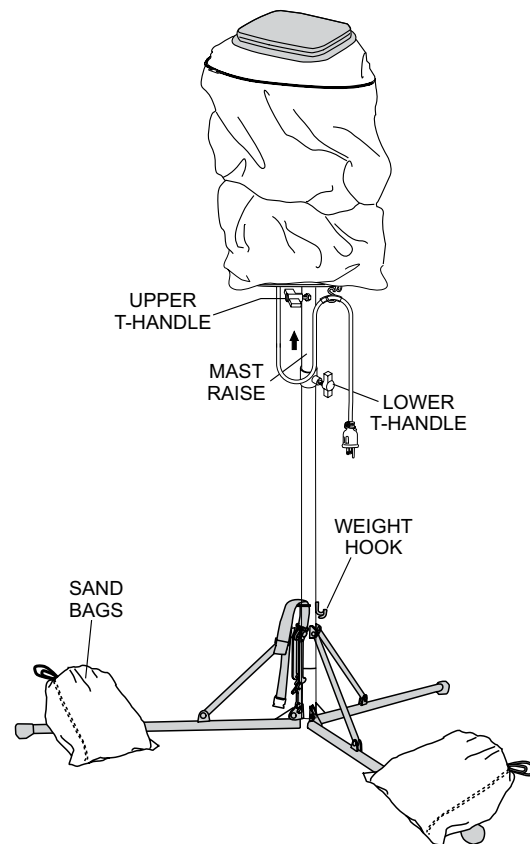

Figure 12. Sand Bags
Before raising the mast, make sure the upper T-handle bolt lock (Figure 12) is securely tightened. This will prevent the balloon/lamp assembly from falling off. In addition make sure that the lamp power cable is connected to the mating end of the 15 ft (4.5 meters) power source cable.
5. To improve stability and to prevent tipping of the light unit, place sand bags or similar type weight over the tripod legs or weight hook as shown in Figure 12.
6. Raise mast to desired height and tighten lower T-handle (Figure 12) securely.